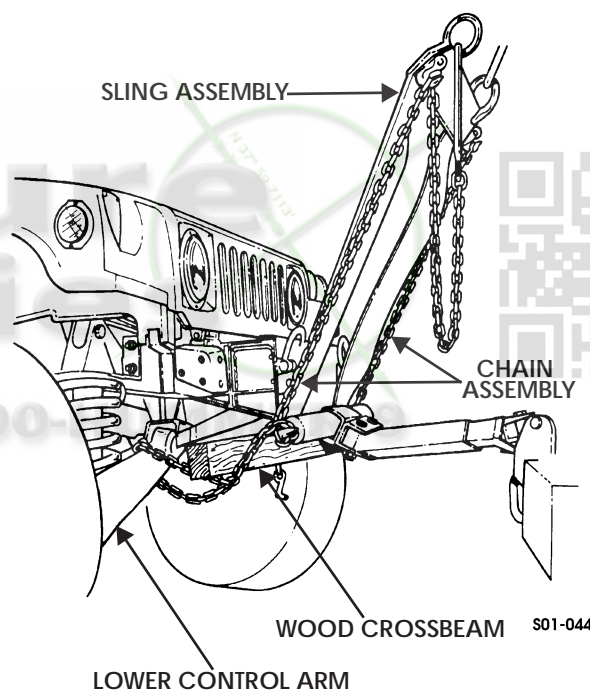

Figure 1-31: Towing From the Front
1. Loop the wrecker chain assembly around both front lower control arms and secure the chain assemblies to the sling assembly (Figure 1-31).